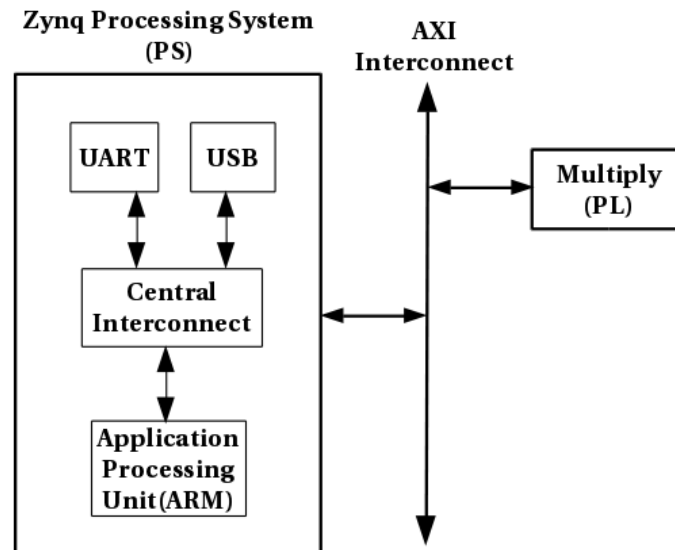

Figure 1: Zynq System Diagram
The microprocessor system you will build in this lab is depicted in Figure 1. In the previous lab a soft processor Microblaze was used, however in this lab you will use the ARM Cortex A9 processor in the
Zynq Chip on ZYBO Z7-10 board. The Zynq chip is divided into Processing System(PS) and Programming Logic(PL). PS has a dual-core ARM Cortex-A9 processor and PL uses Xilinx 7 series FPGA logic cells. In place of the GPIO modules, utilized in the last lab, is a multiplication block, which represents the integer multiplication peripheral you will create. The UART in Figure 1 will be used to connect the USB-UART port(J12) on the ZYBO Z7-10 board to the workstation computer via a cable which will display the output of the software executing on the PS. The software you will develop in this lab will provide proof of operation for your multiplication peripheral.